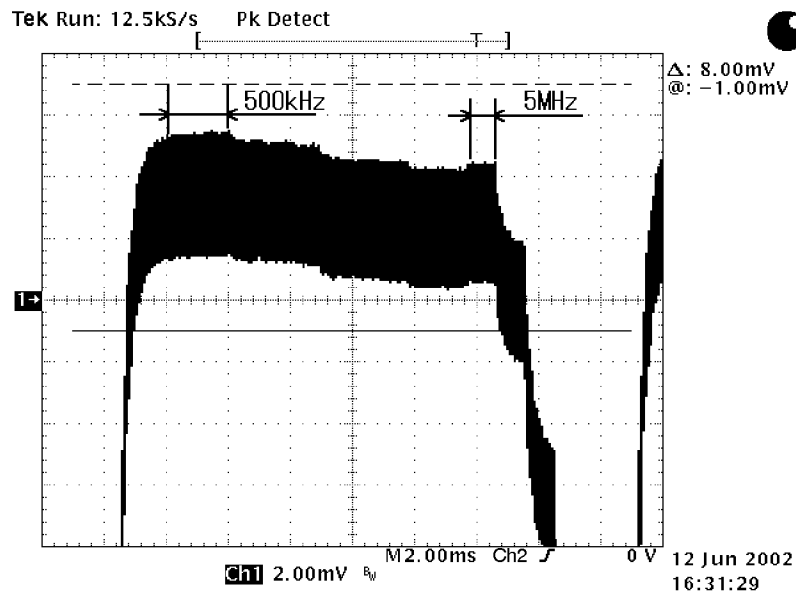

Figure 17: Signal amplitudes from 500 kHz to 5 MHz
11. Verify that the differences between the maximum amplitude and minimum amplitude from 500 kHz to 5 MHz are less than or equal to 3.5 mV. (See Figure 17.)